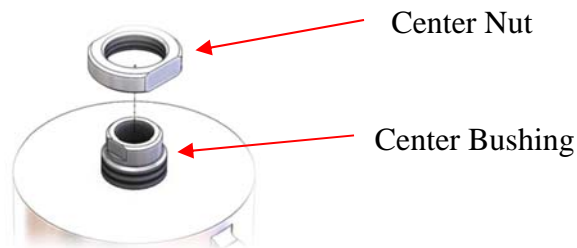

Figure 22: 2" Body Center Nut and Bushing
15. Once loose, unscrew the center nut from the center bushing if not already done so. Set aside the center nut. See Figure 22.